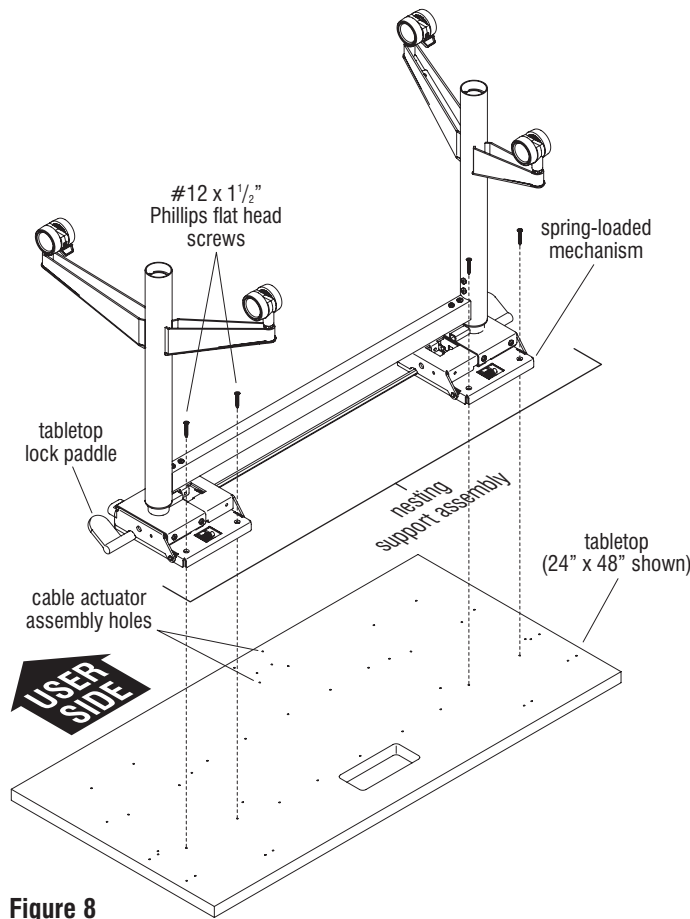

Figure 8
19. Carefully place the tabletop upside down on a soft, protective surface. Take note that the "user side" of the tabletop has pilot holes for the cable actuator assembly near the front edge, at center. Carefully position the nesting support assembly onto the tabletop with the tabletop lock paddles and wider spread of the legs oriented to be facing the user side of the table, as illustrated (Figure 8 & Detail K).
20. Align the two mounting holes on the back of each spring-loaded mechanism of the nesting support assembly to the corresponding pre-drilled holes at the underside of the tabletop, then secure using #12 x 1½" Phillips flat head screws. Do not over-tighten (Figure 8 & Detail L).